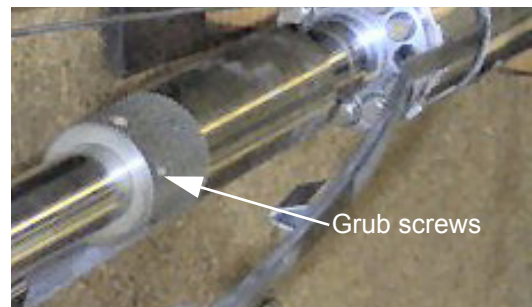

Figure 5.7 Slackening Grub Screws
- 2 Remove the Locking Ring (Item 16, 411214) from the Sensor Head (item 1, 411214), see Figure 5.7).